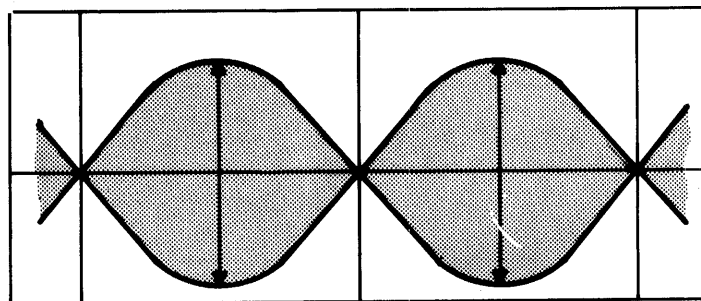

Figure 5-21. Head Radial Alignment Waveform
2. Compare amplitudes of two adjacent oscilloscope-displayed lobes (Figure 5-21). They must be equal within 25 percent.
6. Rotate actuator housing until oscilloscope displays distinct lobe patterns, and then adjust housing radial position until two adjacent lobes are equal in amplitude. See Figure 5-21.